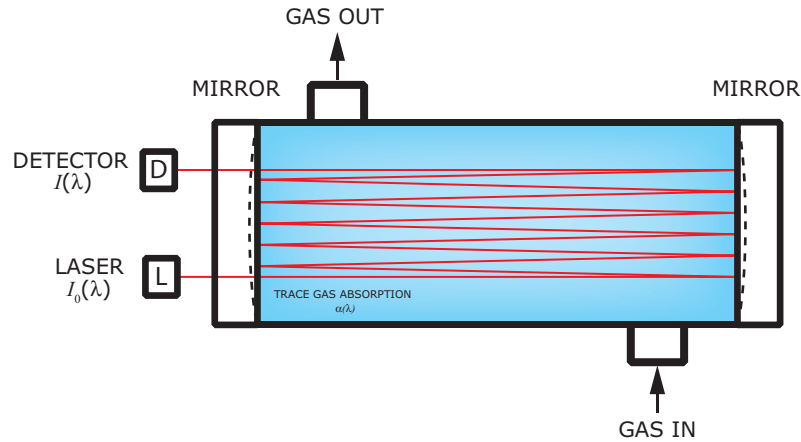

Figure 1-1 Schematic of a typical laser diode absorption spectrometer.
- Figure 1-1: Schematic of a typical laser diode absorption spectrometer. 1-5
through which the laser beam can pass, as shown in Figure 1-1. The laser beam enters the cell and reflects off the mirror(s) making one or more trips through the sample gas and eventually exiting the cell where the remaining beam intensity is measured by a detector. With the SS500/SS2000/SS3000 analyzers, sample gas flows continuously through the sample cell ensuring that the sample is always representative of the flow in the main pipe.